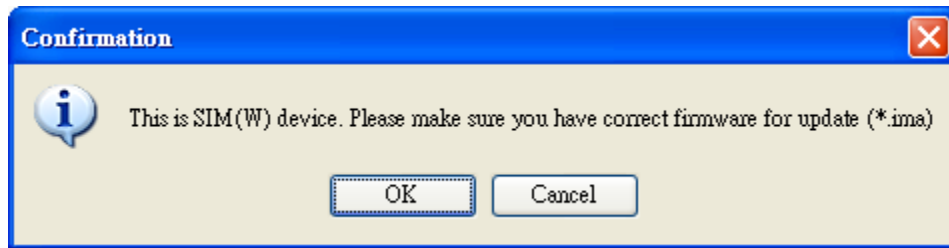

Figure D-1
To re-flash SIM(W) Firmware, please select an SIM(W) device and <Update firmware> in the menu. Then, click <OK>. A dialog box will display as shown in Figure D-1.